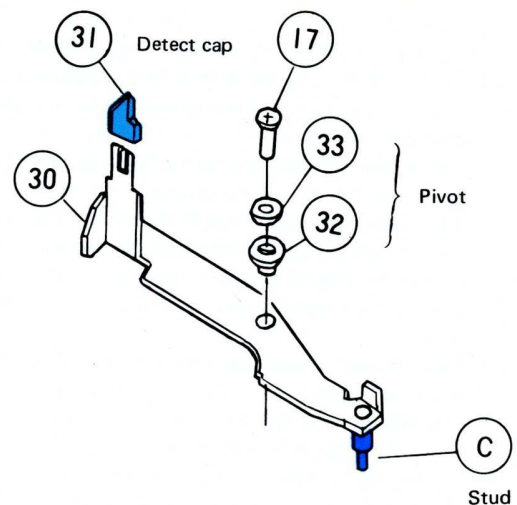
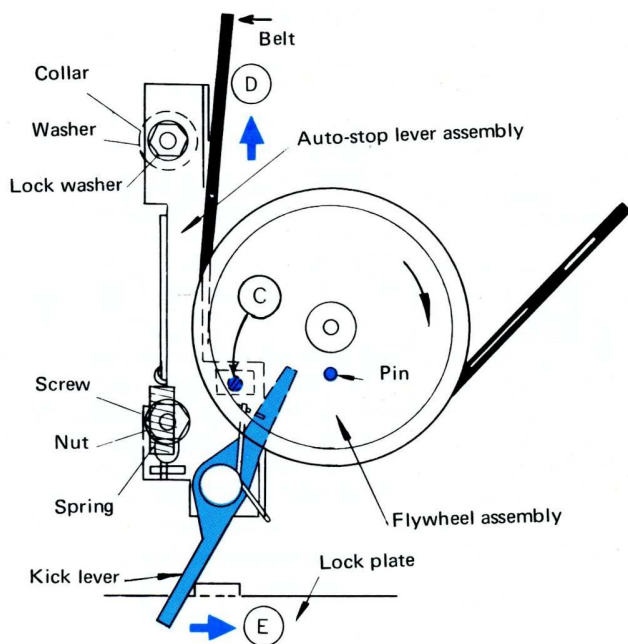

Fig. 29
Fig. 30 Auto-stop mechanism (B)
- At the end of the tape the detect cap is pushed by the tape tension in the direction of (A).
- When the detect cap is pushed in the direction of (A), the stop detect lever turns about the pivot so that the part (B) moves in the direction of the arrow.
- The stud (C) in the Fig. 29 moves the auto-stop lever assembly, which is attached underneath the chassis, in the direction of (D) as shown in Fig. 30.